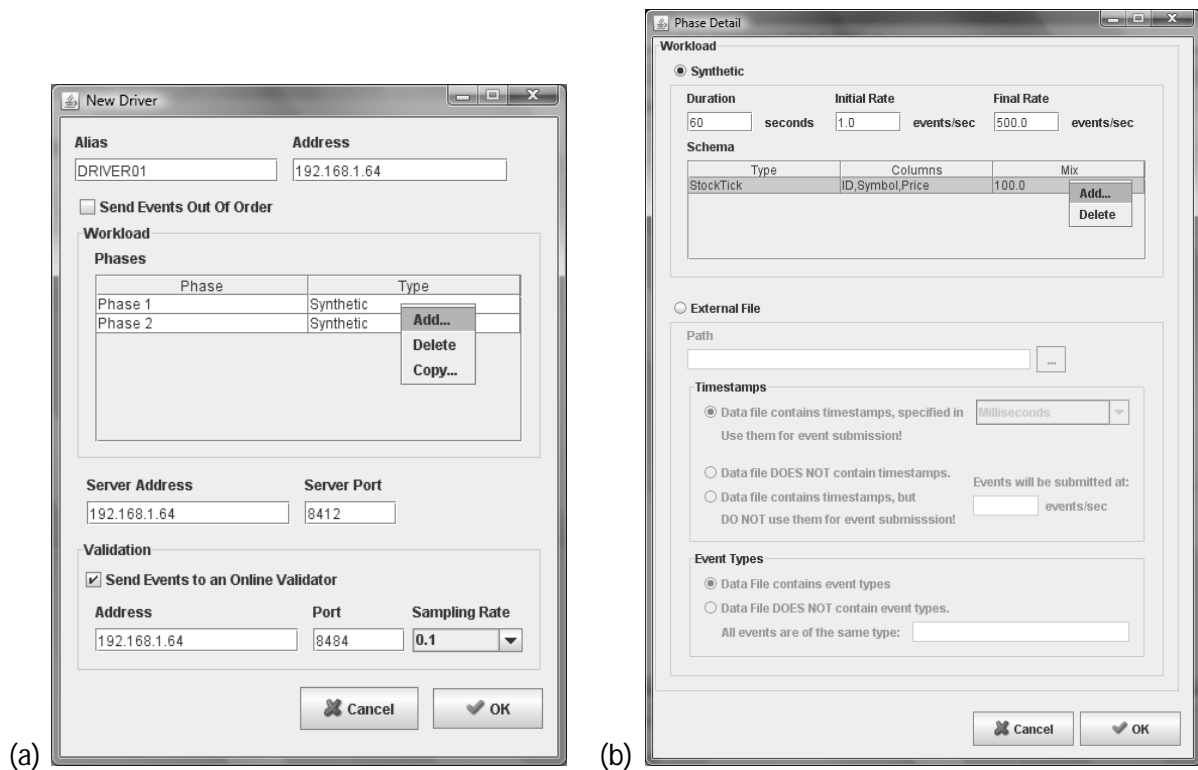

Figure 2.2: (a) Driver Configuration Screen. (b) Workload Configuration Screen
To configure a new Driver, select 'New...' from the 'Drivers' menu. The "New Driver" Dialog will appear as in figure 2.2 (a). A Driver configuration has the following parameters:
- ✓ Workload – A set of phases, each with its own workload characteristics (we will talk more about workload parameters next). Each Driver must have at least one execution phase. You can add, delete and copy phases by right clicking the 'phases' table as shown in figure 2.2 (a);
Figure 2.2 (b) shows the configuration of the workload parameters of a Driver's phase. You can choose a synthetic workload to be generated by the FINCoS framework itself, or to load an external dataset file (the framework only supports external files stored in CSV – comma-separated-values – format).
If you configure more than one event type, you can specify the percentage of events to be generated of each type by setting the ‘mix’ parameter in the schema table as shown in figure 2.2 (b) (the mixes do not need to sum up 100 or 1, because the framework normalizes the values; thus, specifying 50/50, 0.5/0.5 or 30/30 for two event types mixes will have the same effect: they will be generated in the same proportion)